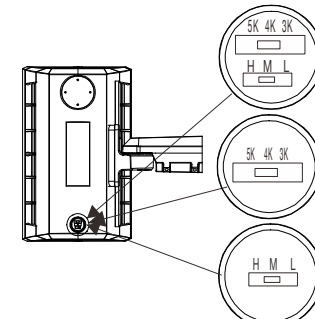

Figure 18
**STEP 2:** After adjusting the required control function, tighten the metal plug clockwise (FIGURE 18)